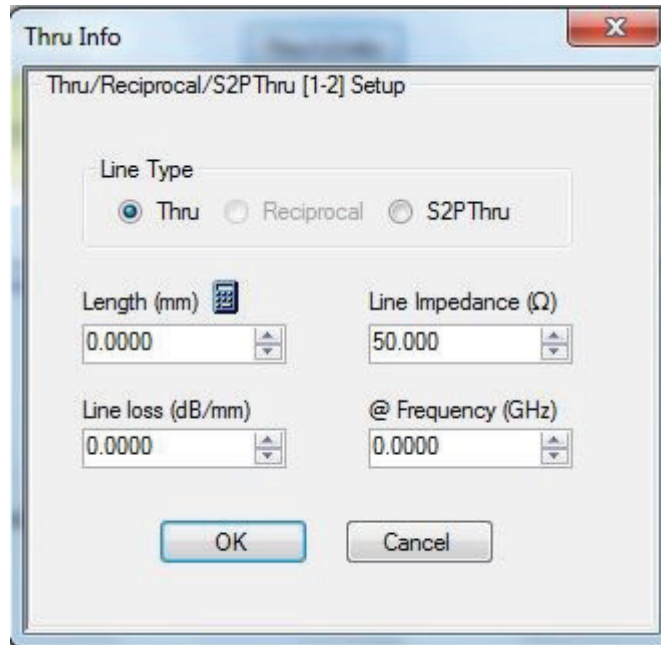

Figure 3-57. THRU INFO Dialog
7. Click on Thru1-2 Info and the THRU INFO dialog appears (see Figure 3-57) and verify that Length (mm), Line loss (dB/mm), and @Frequency (GHz) are set to 0.000.